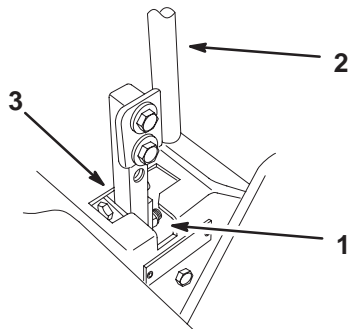

Figure 49
3. Move lever to the neutral position but **not locked** (Fig. 49).
5. Check where the control lever is relative to notch in console (Fig. 49). It should be centered allowing lever to pivot outward to the neutral lock position.
7. Apply slight rearward pressure on the motion control lever, turn the head of the adjustment bolt in the appropriate direction until the control lever is centered in neutral lock position (Fig. 49).